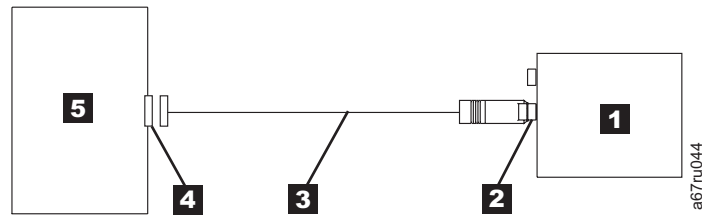
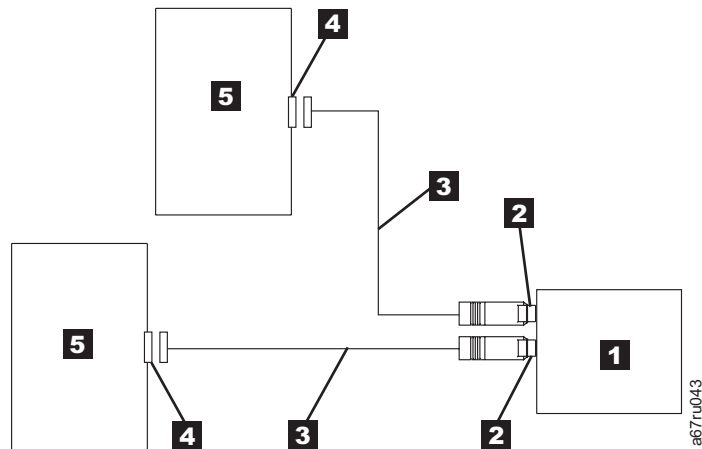

Figure 2-3. Example of connecting one SAS device to the server
Figure 2-4. Example of connecting the SAS device to two servers
3. The tape drive has two SAS ports and can be connected to two servers, if desired. Refer to the appropriate figure that represents your configuration for cabling information (see Figure 2-3 or Figure 2-4) and then connect the SAS cable(s) to SAS host adapter(s) and to the tape drive as shown.